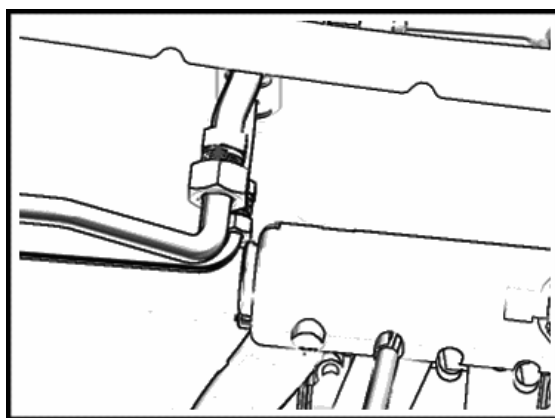

Figure 6-18
(1) Discharge coolant from the system.
(2) Disconnect air conditioner pipeline assembly (as shown in Figure 6-18).